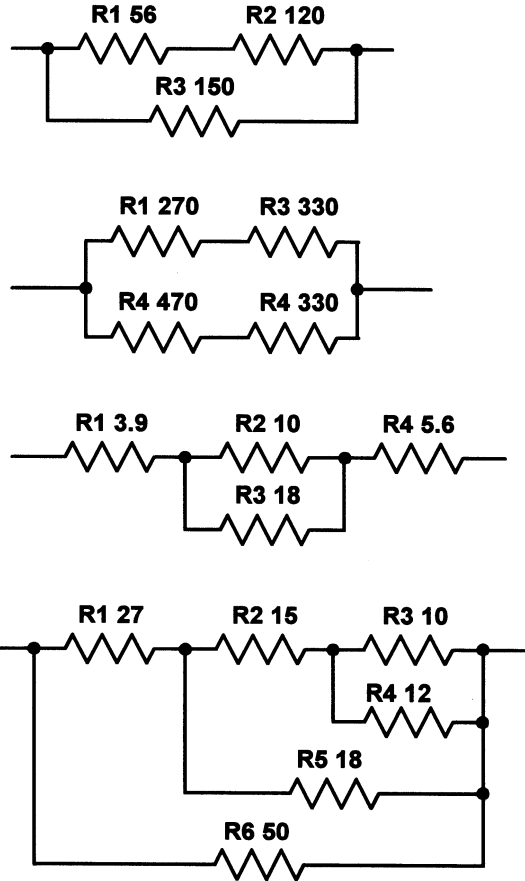

Figure A2.4
13. Determine the effective resistance of each circuit shown in Fig. A2.4. [Page 25]